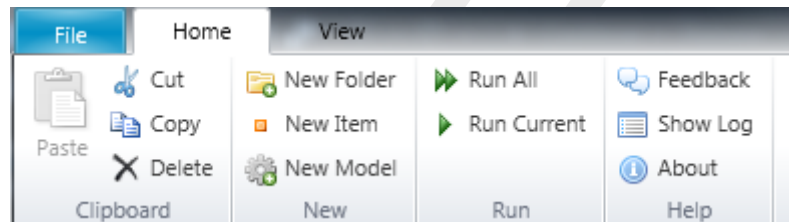

Figure 5.1: Example of the Home tab in the Ribbon bar when a model is selected. Run Current and Run All options are enabled
- ◇ Pressing "Run Current" in the *Home* tab of the ribbon (see Figure 5.1), or
- ◇ Pressing "Run All" in the *Home* tab of the ribbon (see Figure 5.1), or